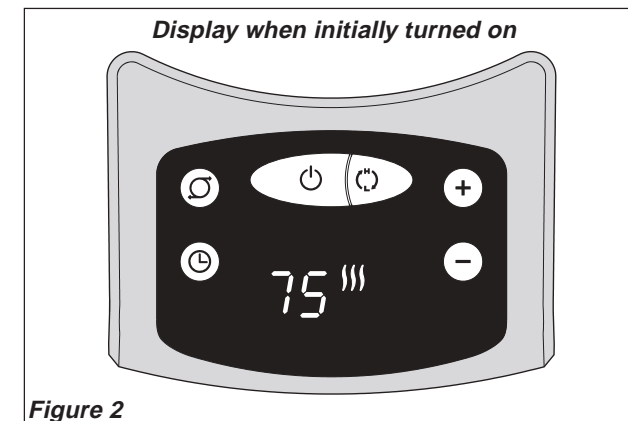

Figure 2
7. Upon turning the Heater on, the unit will be in HIGH heat (|||) (1500 Watts) and will display the current room temperature (Figure 2)